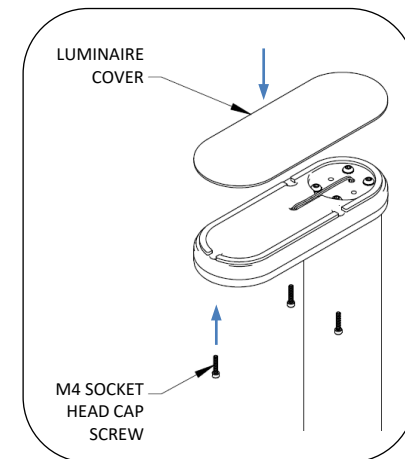

Fig. 9 – Install luminaire cover
14. Attach luminaire cover with (3) M4 screws, see Fig. 9.